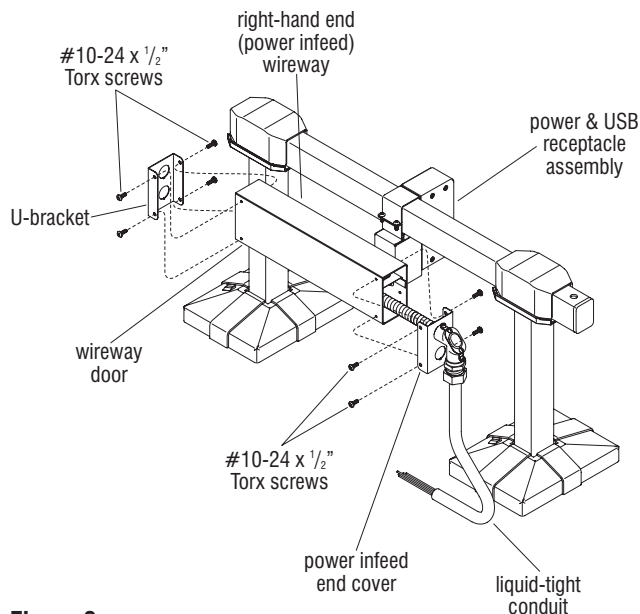

Figure 9
23. Once power and USB wiring has been completed, close the wireway doors and install the power infeed end cover to the wireway using four #10-24 x 1/2" Torx screws. Torx screws to 25 in/lbs, take care not over-tighten, or strip out mounting holes (Figure 9).
24. Install U-bracket to the opposite end of the wireway using four #10-24 x 1/2" Torx screws. Torx screws to 25 in/lbs, take care not over-tighten, or strip out mounting holes (Figure 9).